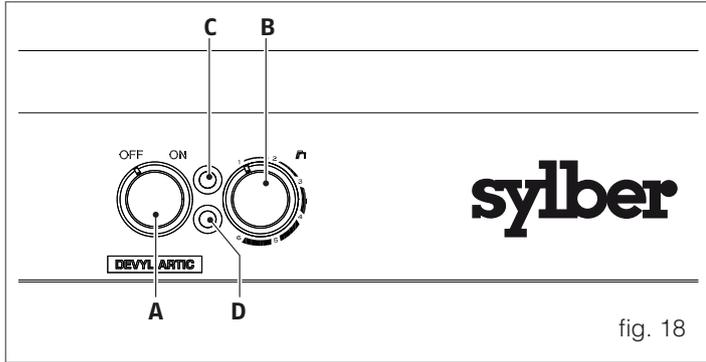

fig. 18
- Turn the main dial (fig. 18 - **A**) on the control panel to the "OFF" position.
- Check that the green light switches off (fig. 18 - **C**).
Using the temperature selection dial (fig. 18 - **B**), the temperature of the hot water requested can be selected from between the minimum and the maximum.
By turning the dial (fig. 18 - **B**) to an intermediary point, the temperature of the water provided is between the minimum and maximum values that can be selected.
The outer curves in the graphs refer to the temperatures obtained in relation to the water flow rate with the dial (fig. 18 - **B**) set to the minimum or maximum positions.
It is recommended that you lower the requested temperature by a few degrees by turning the dial (fig. 18 - **B**) anticlockwise.